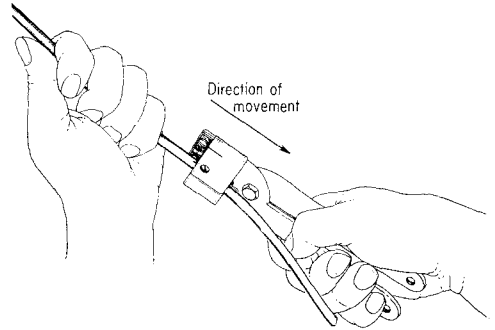

Fig. 2—Slitting C Rural Wire
3.01 To slit C rural wire, open slitter and place wire in groove of guide block opposite slitting blade; close slitter, then pull along wire as shown in Fig. 2.